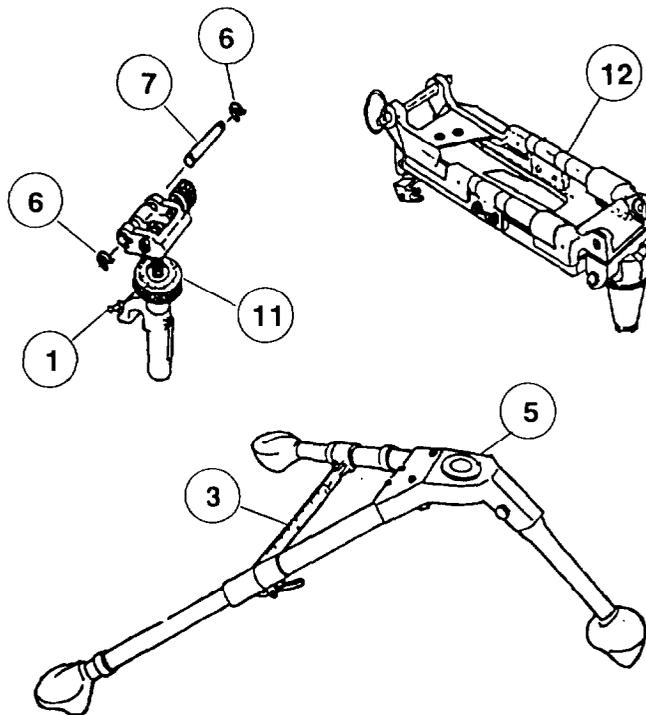

Figure 2
- (5) Remove traversing adapter assembly (8), PN 7792991, helical compression spring (9), PN 7792987, and stud plunger (10), PN 7792986.
- b. Follow the disposition instructions provided in paragraph 8d above for the traversing adapter assembly (8), PN 7792991, helical compression spring (9), PN 7792987, stud plunger (10), PN 7792986, and the mount pintle (4), PN 11010408.
- d. Reassembly: Add the following parts in accordance with subsequent instructions and figure 2: